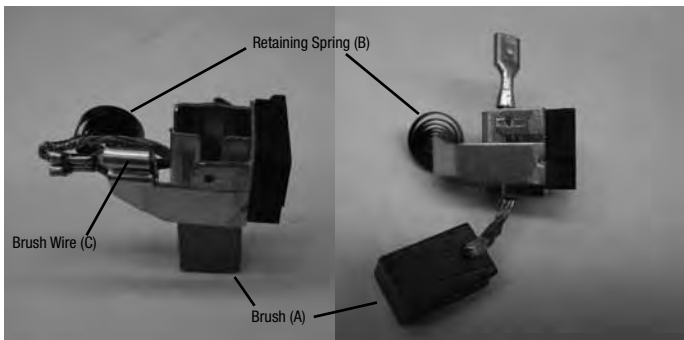

Figure 3c
3. Remove the Brush Wire (C) Fig. 3c from the Brush Holder and allow the Brush (A) Fig 3c to slide downward and out of the Brush Holder. The Retaining Spring (B) Fig. 3c will push the Brush downward.